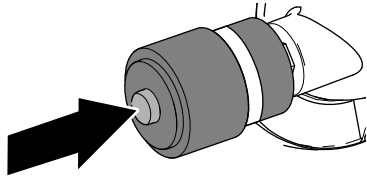

Figure 83
1. If a red band displays in the service indicator, press the reset button at the end of the indicator (Figure 83).